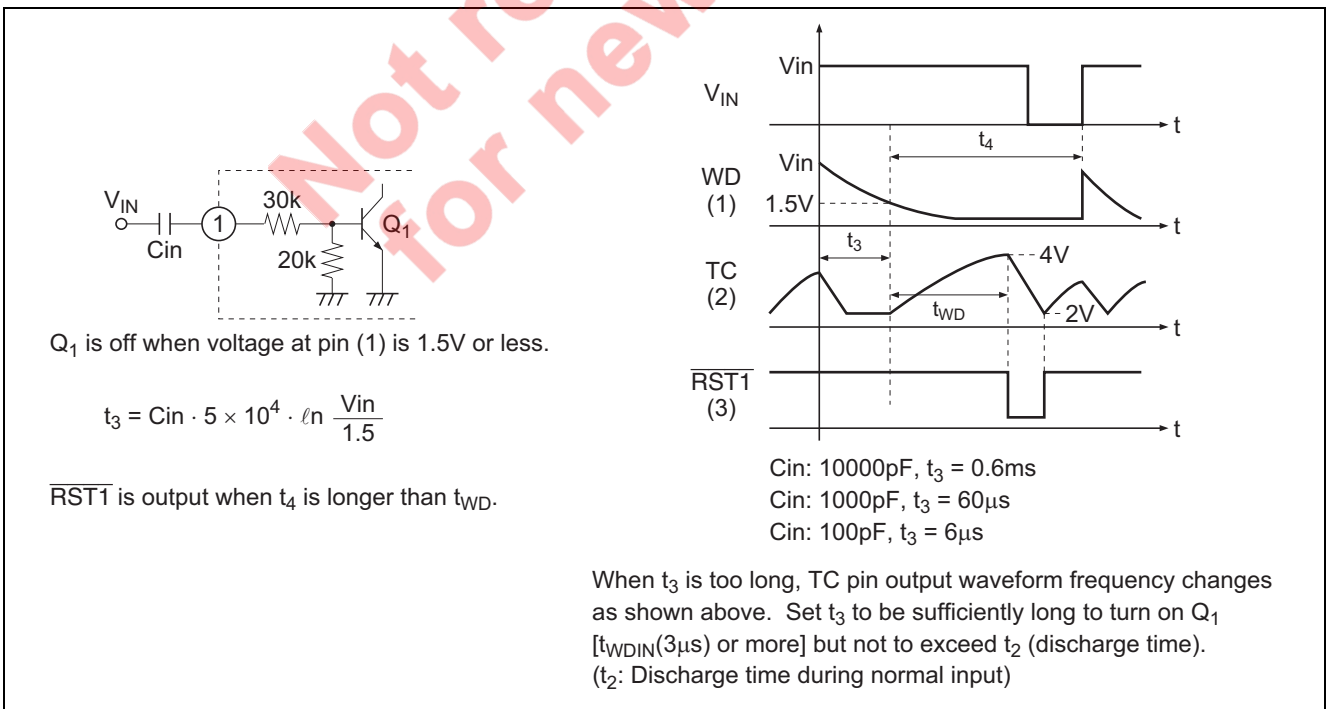

Figure 5
When input to pin (1) is 1.5 V or more, TC pin discharges electricity. Determine pulse width and input capacitance C_{in} with reference to the diagram shown in figure 5.